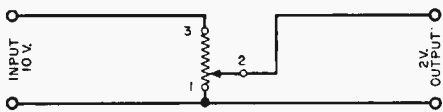

Fig. 1. Basic unit showing mode of operation.
**Figure 1.** If an input of 10 volts is applied across the end terminals of a linear potentiometer, 1 volt will exist across terminals 1 and 2 when the shaft is rotated one-tenth